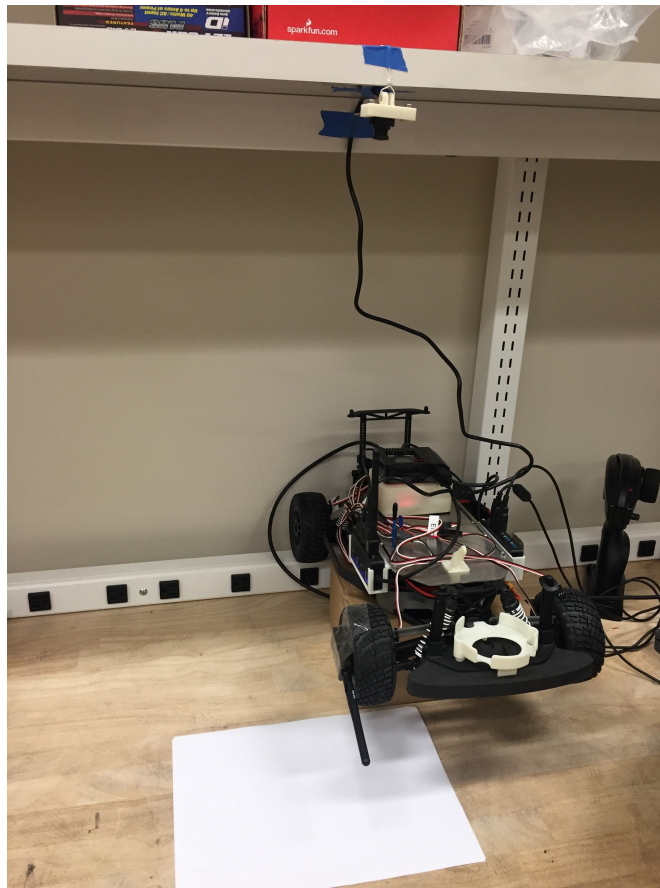

Figure 1: Experimental setup for the dynamic steering identification.
1. The BARC camera is mounted above the vehicle, looking straight down at the front wheels. The camera is attached so it sits approximately one to two feet above the BARC, as in the setup depicted in Fig. 1.